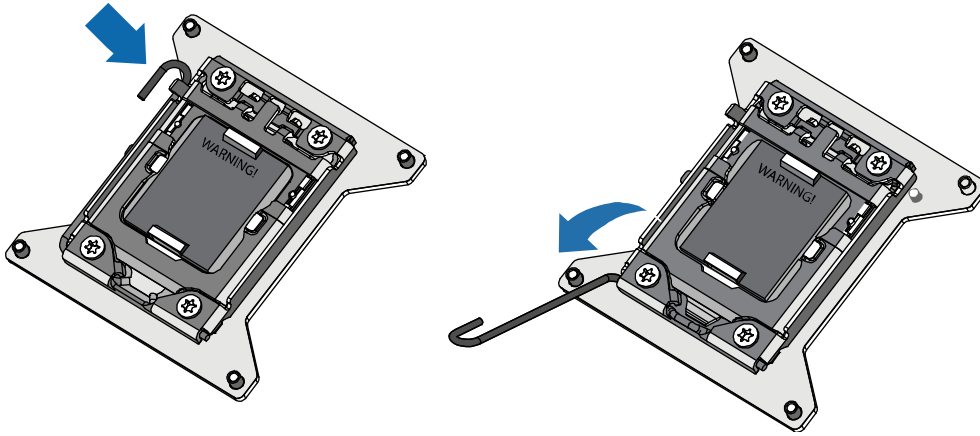

Figure 2-8 Schematic diagram for opening CPU locking rod
Step 2: Loosen CPU locking rod by referring to the figure 2-8.